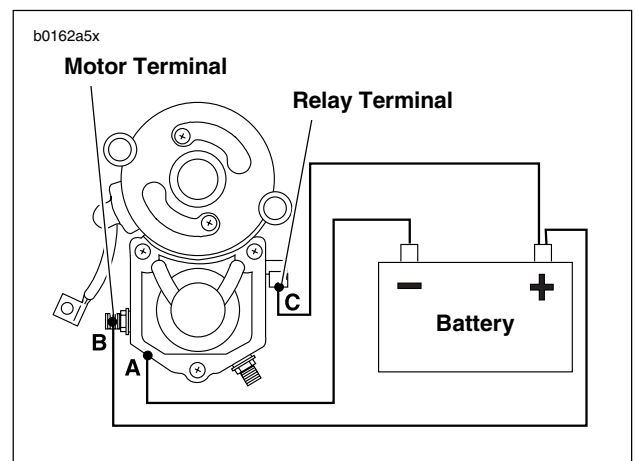

Figure 5-13. Hold-In Test
1. See Figure 5-13. With test leads still connected in the manner specified in the previous SOLENOID PULL-IN TEST, disconnect solenoid motor terminal/battery negative test lead (B) at negative battery post only; reconnect loose end of this test lead to positive battery post instead.